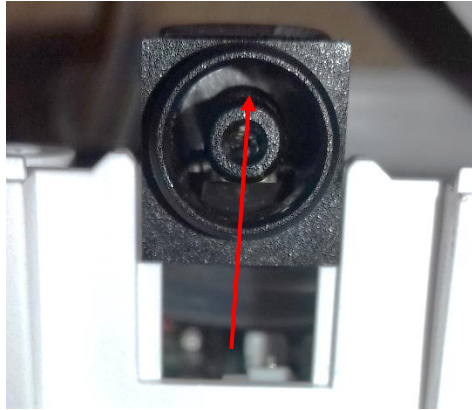

Fig: 6
2. Slide the power supply socket from the bottom case. (Fig: 6)